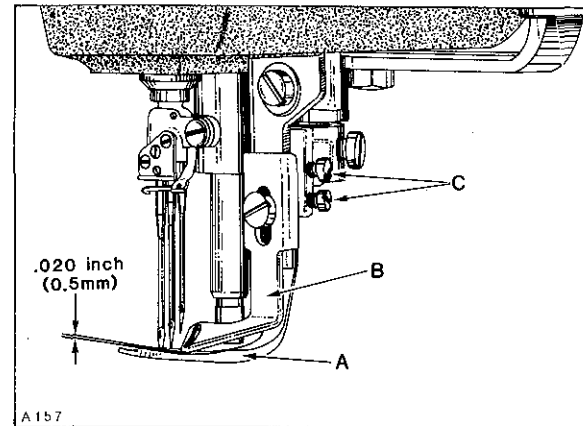

Fig. 27
Spreader (A, Fig. 27) should be positioned so its upper surface clears the lowest edge of stationary guide (B) by .020 inch (0.5mm) and the rear side of spreader blade should clear the shank of left needle by 1/64 to 1/32 inch (0.4 to 0.8mm) throughout its arc of travel. Adjustment can be made by loosening screws (C), reposition as required and retighten screws securely.